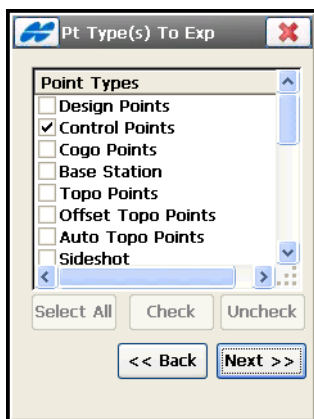

Figure 5-21. Select Point Type(s) to Export
5. If *By Type* or *By Type, Range and Code* was selected in the *Points* drop-down list, on the **Point Type(s) to Export** screen, select the types of points to be exported (Figure 5-21).